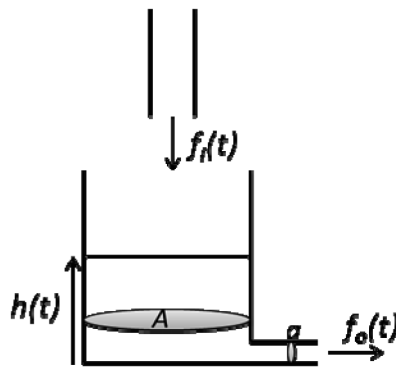

Figure 1
- 1 a) A liquid filling apparatus is shown in Figure 1, where the inflow, outflow, cross-section areas of the container and outlet, and the liquid height are indicated as $f_i(t)$, $f_o(t)$, A , a , and $h(t)$ respectively. Outflow is proportional to liquid height and outlet cross-section area with a constant of proportionality k .